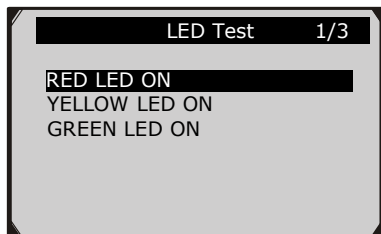

Figure 3.11
- 2) In the **LED Test** menu, use the **UP/DOWN** scroll button to select one or more LED lamps to check. The LED should turn on or off according to the selected commands. (Figure 3.11)